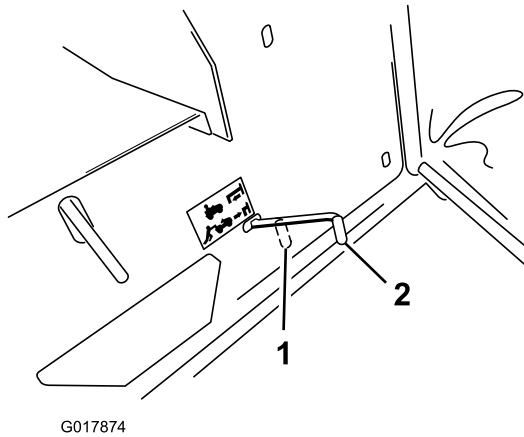

Figure 13
Note: This disengages the drive system and allows the wheels to turn freely (Figure 13).
- Pull the drive control out to the Operate position (Figure 13) to engage the drive system.